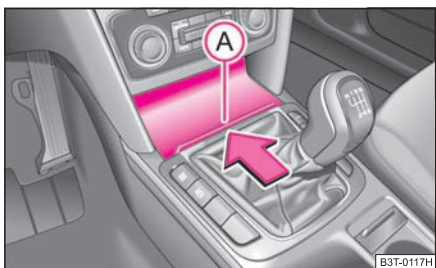

Fig. 94 Front centre console: Storage compartment
- Open the ashtray ⇒ page 89, fig. 94.
- Press on the lid at the point (A) in direction of arrow ⇒ fig. 94, the lid slides in.